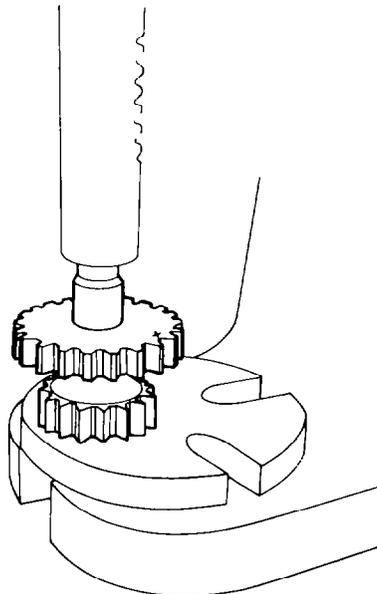

Fig. 393 — Removing Bearings
- d. Position the gear on an arbor press then press out and discard the needle roller bearings (see fig. 393).